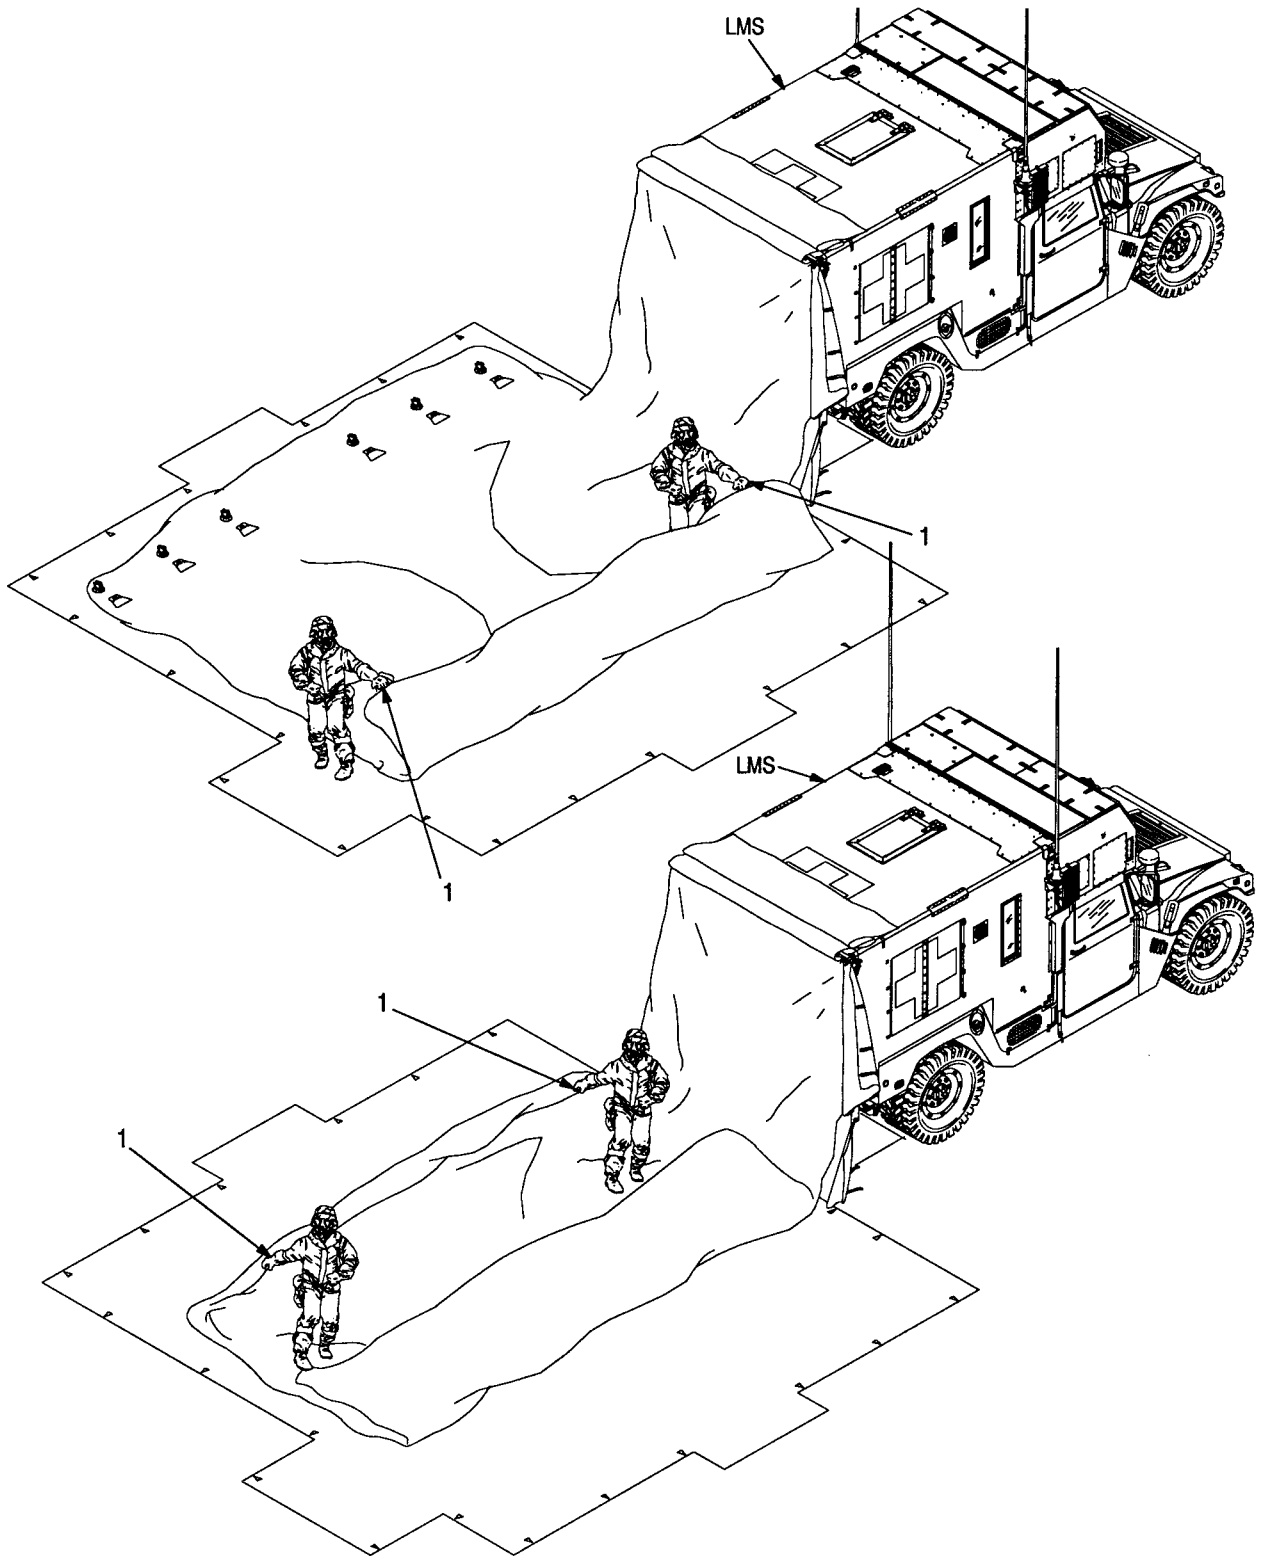

Figure 2-54. Folding the ABS
- (10) Grip ABS (1, figure 2-54) and fold passenger side of ABS into one third.
- (11) Grip ABS (1) and fold driver side of ABS into one third.